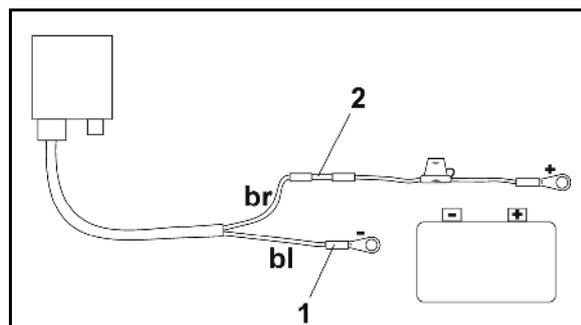

Fig. 17
5. Insert the blue cable (earth cable) into the loose ring tongue (Fig. 17/1).
7. Insert the brown cable (+ 12 Volt) into a free butt joint (Fig. 17/2).
9. Shrink the casing over the butt joint (Fig. 17/2) by using a heat source (lighter or hair dryer) until the adhesive escapes.